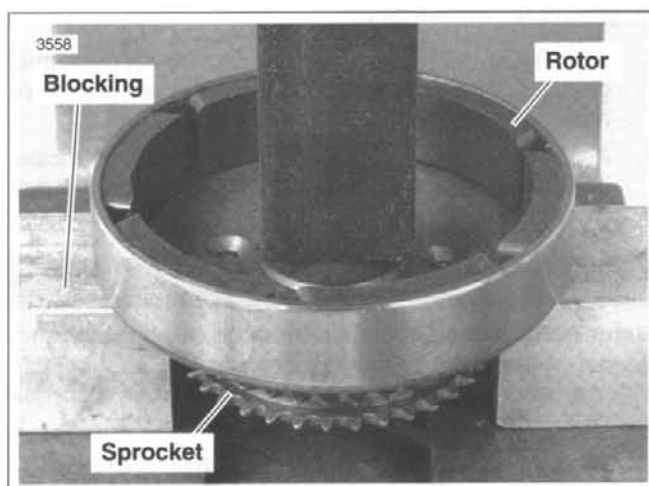

Figure 7-24. Removing Rotor From Sprocket
2. See Figure 7-24. Position blocking under rotor. Press sprocket free of rotor.